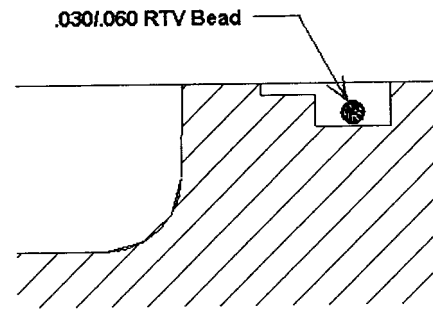

Figure 14
- 4.6.5.1 The 48WCB2 incorporates a dual groove for both the Superflex® #596 Sealant and an O-ring. An initial bead of sealant .030"-.060" (0,7 - 1,5mm) in size must be applied to the bottom of the deep groove in order to hold the O-ring in place. See Figure 14.